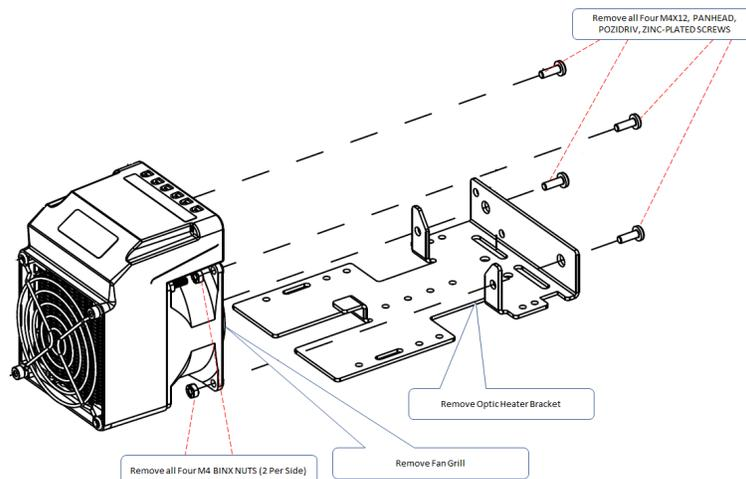
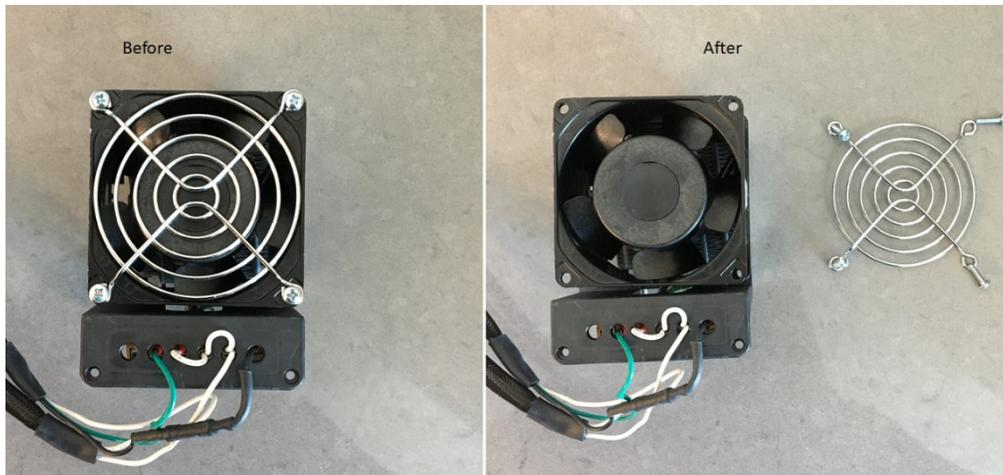

Figure 162
Figure 163
- 3) Remove and discard four M4 mounting screws, M4 nuts, secondary grill (on the fan side of the heater), and OPTIC heater bracket from the heater body. See Figure 162 and Figure 163.